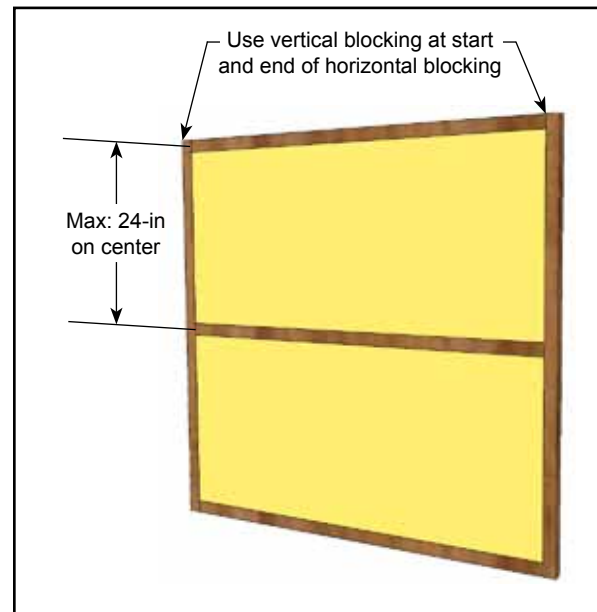

Figure 1
1. Install 1" or 2" thick horizontal blocking and fill sections between blocking with either 1" or 2" thick, 3# fiberglass. Horizontal blocking shall be installed 24" on center. Vertical blocking to be used at ends of horizontal blocking runs. (Figure 1)